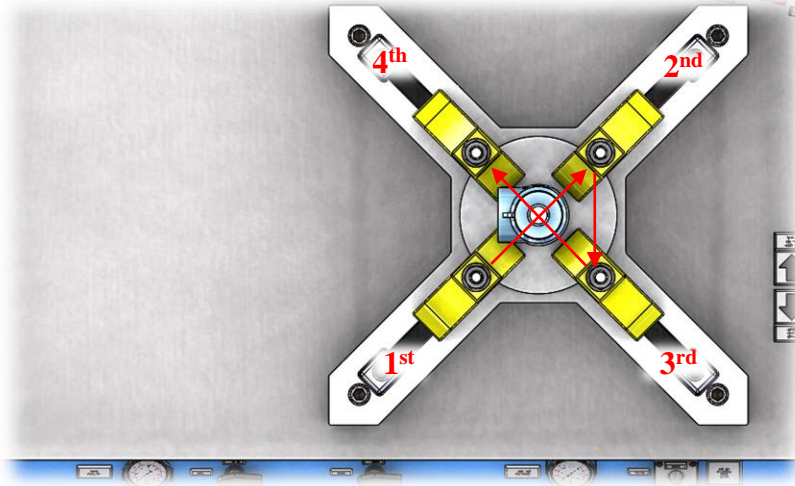

Figure 13: Top View with Tightening Order
- ii. Then the flange nuts should be tightened 1 to 2 turns on each nut in a cross pattern. See Figure 13 for this depiction.